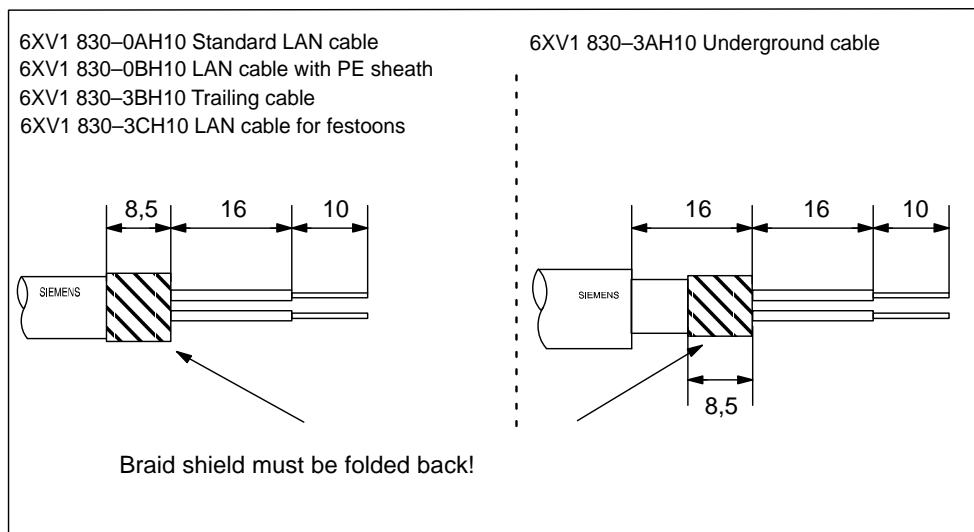

Figure 5. 9: Lengths for Stripping the Cable to Connect it to the RS 485 Repeater
2. Strip the insulation from the PROFIBUS LAN cable as shown in Figure 5. 9.